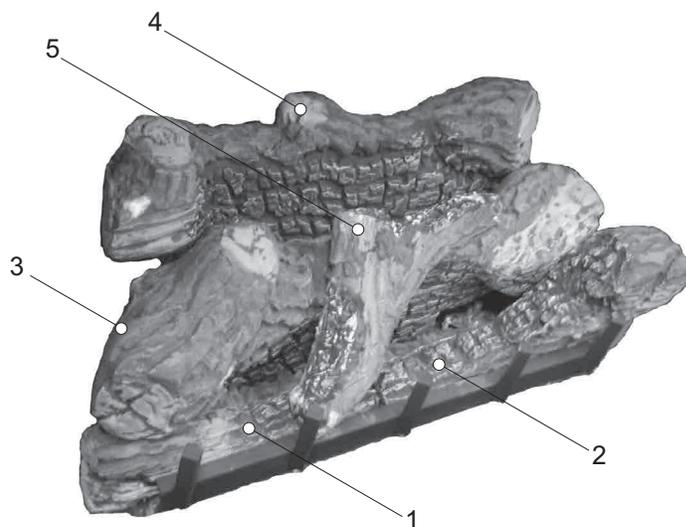
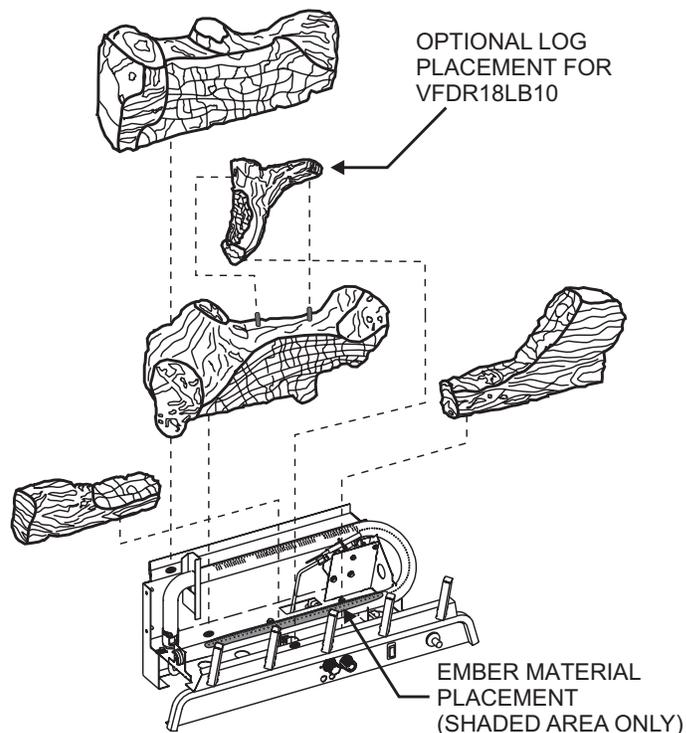
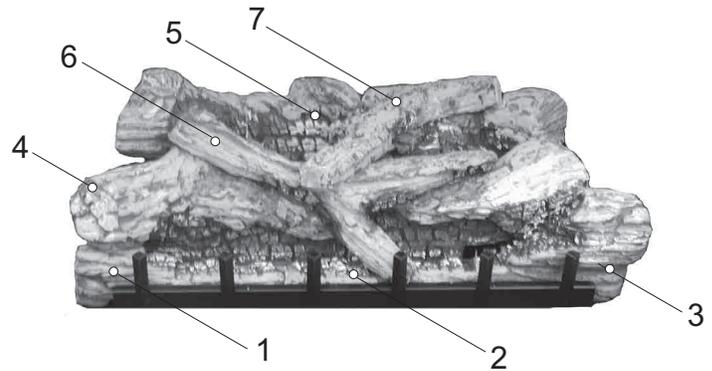
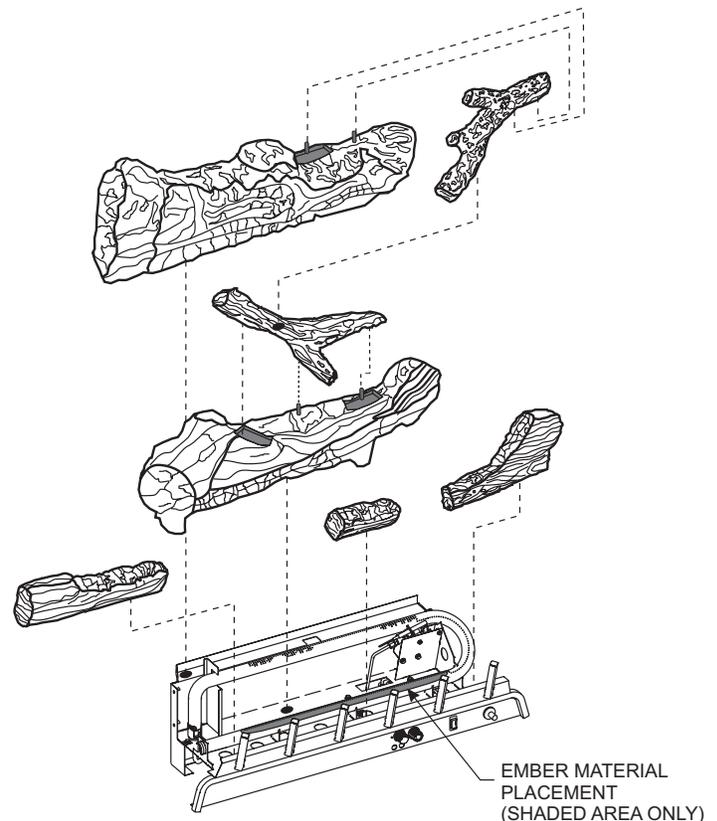

Figure 11
Figure 12
Figure 13
Figure 14
The positioning of the logs is critical to the safe and clean operation of this burner assembly. Sooting and other problems may result if the logs are not properly and firmly positioned on the burner assembly. Refer to **Figure 11** and **Figure 12** and corresponding **'WARNING:'** when completing following log placement instructions.
5. After all logs are positioned properly, apply Rockwool ember material to the front burner port area. To apply, carefully separate the ember material into small amounts no larger than "dime size" pieces. Fluffed up pieces one layer thick on top of the burner generally works best, and will provide the best ember glow. Do not place ember material more than one layer thick. No more than (2) two small packets of ember material (part no. 15998) evenly placed on the burner, is recommended on VFDR18 and VFDR24 models. Using additional ember material will decrease the amount of ember glow effect. Extra ember material should be saved for future ember applications as necessary. See **Figure 12**.
Attention: Do not use **Figure 12** or **Figure 13** to order logs. Refer to Parts Lists and Parts Views to order logs and/or ember material for your appropriate model.
The positioning of logs is critical to safe and clean operation of this burner assembly. Sooting and other problems may result if the logs are not properly and firmly positioned on the burner assembly. Refer to **Figure 13** and **Figure 14** and corresponding **WARNING**: when completing following log placement steps.
6. After all logs are properly positioned, place small "dime" size pieces of Rockwool lightly across the front burner tube ports. Place the ember material (Rockwool pieces) side by side. Do not stack more than one layer of embers across the burner ports. No more than (1) one packet of ember material (part number 15999) evenly placed on the burner, is recommended on VFDR30 models. **See Figure 14.**
Attention: Do not use **Figure 13** or **Figure 14** to order logs. Refer to Parts Lists and Parts Views to order logs and/or ember material.